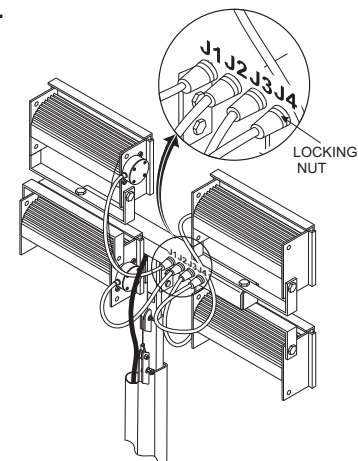

Figure 13. Cable Connectors
- d. Align the key tab (B) on the male connector with the slot or key (A) on the female connector and press together until seated.
- e. Secure the connector by screwing the knurled locking nut of the male connector to the threaded portion of the female connector to ensure good contact between the two connectors. See Figure 13.